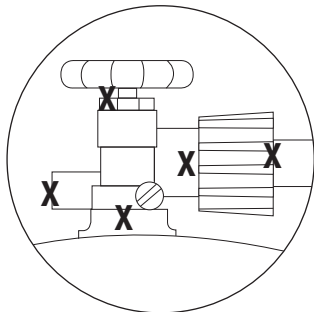

Figure 3
2. Make sure the control knobs is in the “🔥 OFF” position (Figure 3).
1. Make sure the control knob is in the “🔥 OFF” position (Figure 3).
2. Make sure control knobs are in the “🔥 OFF” position (Figure 3).
3. The control knobs must be in the “🔥 OFF” position (Figure 3).
The control knobs must be in the “🔥 OFF” position (Figure 3).